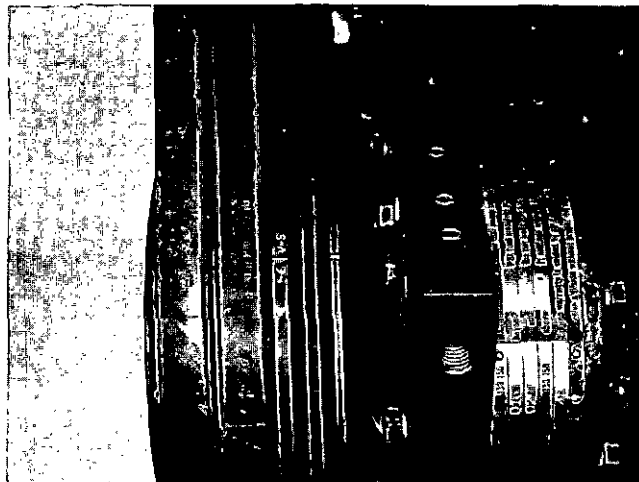

Fig. 5-32, N114220. Valve set timing marks
3. Bar engine in direction of rotation until a valve set mark (1, Fig. 5-32) aligns with the boss (2) on the gear case cover. Example: 1-6 VS. This location is marked with a notch in the drive pulley.